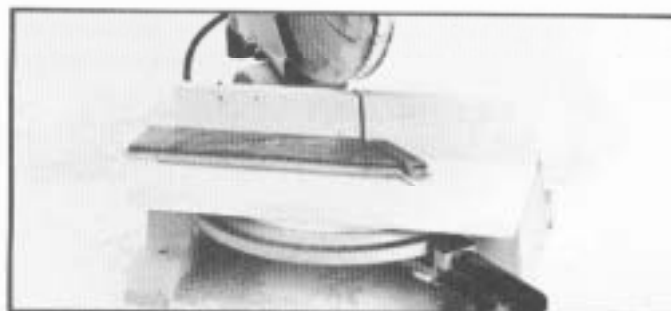

Fig. 72
7. Fig. 72, illustrates making a trim cut at the 45 degree right miter position. Again notice that the cut-off piece remains in front of the fence where it can be safely removed before the next cut is made.
8. If the work piece must be at a 45 degree left angle, simply turn over the work piece and make the cut at the 45 degree right position, as shown in Fig. 72.